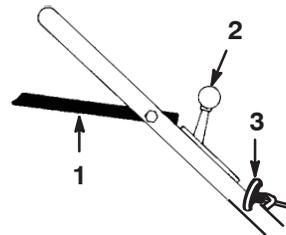

Figure 8
The control bar, the throttle control, and the starter handle are on the upper handle as shown in Figure 8.
3. Move the throttle control to the **Choke** position (Fig. 8).
4. Hold the control bar to the handle (Fig. 8).
5. Pull the starter handle (Fig. 8) lightly until you feel resistance, then pull it sharply. Allow the rope to return to the handle slowly.